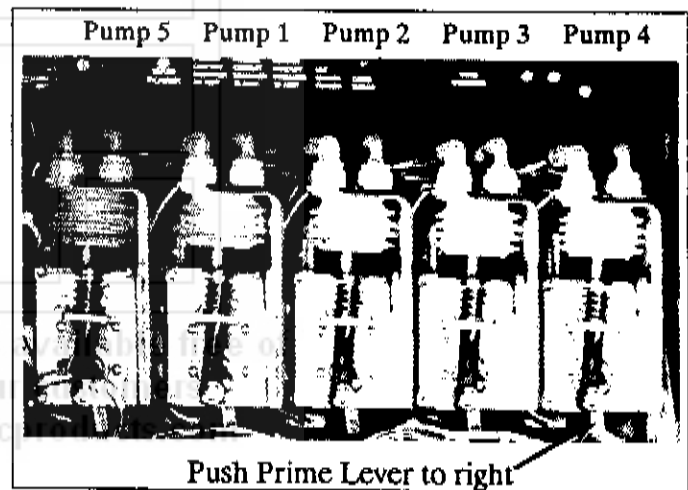

FIGURE 2 - 5 PRIMING SYRUP PUMPS
2. With Main Switch set to ON (up) position, push the Prime Switch Lever (see figure 2 - 5) to the right and hold it until all air is purged from syrup line.